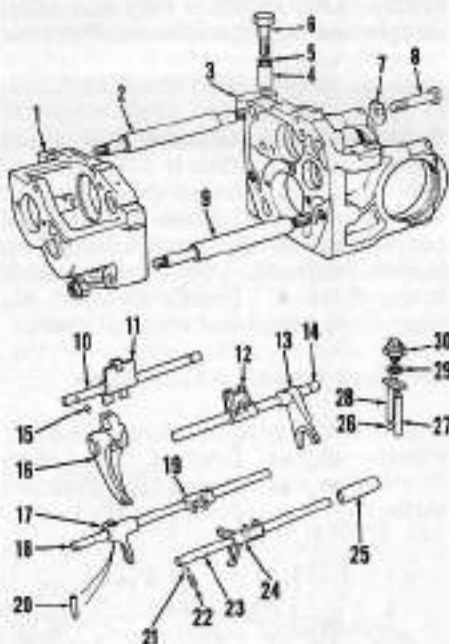
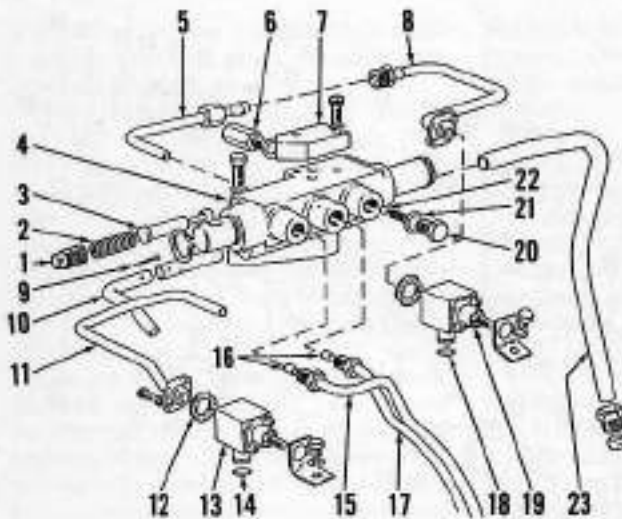

Fig. 148—Exploded view showing end plates, shift rods and shift forks used on 1190, 1290 and 1390 models. Models 1490 and 1690 are similar.
Fig. 151 - View of power shift control valve, front and rear sequence valves and related oil lines.
Remove lubrication line from transmission. Remove mounting bolts (6—Fig. 148) and bushings (4) from transmission, correct hoist just ahead of differential assembly, remove retaining bolts from front bearing carrier and remove transmission assembly.
**254. REINSTALLATION.** Clean all foreign material from gasket and mating surfaces. Using a hoist, install transmission in main frame. Install mounting bolts (6—Fig. 148) and bushings (4) and tighten bolts to 163 N·m (120 ft.-lbs.) torque. Using a feeler gage measure gap between end plate (3) and lower face of mounting bolts (6) head as shown in Fig. 149. Correct clearance is 0.0762-0.5080 mm (0.003-0.020 inch) and is determined by number and thickness of shims (5) between mounting bolt (6) and spacer (4). Apply silicone base sealer to "O" ring on support sleeve and install sleeve retaining bolts. Tighten to 23-27 N·m (17-20 ft.-lbs.) torque. Apply gasket sealer to front mating surface of rear axle assembly and using a hoist, install assembly. Tighten 1/2-inch mounting bolts to 108-130 N·m (80-96 ft.-lbs.) torque and 5/8-inch mounting bolts to 203-244 N·m (150-180 ft.-lbs.) torque. Connect differential lock linkage and brake rod adjusting and locking nuts.
On all models, remove neutral start plunger (27 and 28—Fig. 148) and steel ball (26) from each plunger hole. Attach a hoist to transmission just ahead of differential and remove mounting bolts and bushings. Remove transmission from frame.
On all models, use a hoist and install transmission. Install transmission mounting bolts only, leave bushings (4—Fig. 148) off. Tighten bolts to 163 N·m (120 ft.-lbs.) torque and check to see that both front housing lugs are in contact with frame.
Disconnect all oil lines from power shift control valve (4—Fig. 151), mark sequence valves so they may be reinstalled in their original positions and remove front (13) and rear (19) sequence valves. Remove power shift control valve assembly. Remove rear lubrication line and transmission mounting bolts (6—Fig. 148) and bushings (4).
Install power shift control valve and tighten mounting bolts to 46-57 N·m (35-42 ft.-lbs.) torque. Connect control valve supply line (23—Fig. 151), front lubrication line (10) and retaining cotter pin (9), front sequence valve (13) and supply line (11), rear sequence valve (19) and supply line (8) and making certain restrictor plugs (16) are in front (15) and rear (17) planetary brake lines install both planetary brake lines. Apply gasket sealer to rear axle sealing surface and install new gasket and transmission cover leaving mounting bolts loosely installed. Clean remote valve mounting surface, install "O" rings on valve spools and install gasket and remote valve assembly. Tighten mounting bolts to